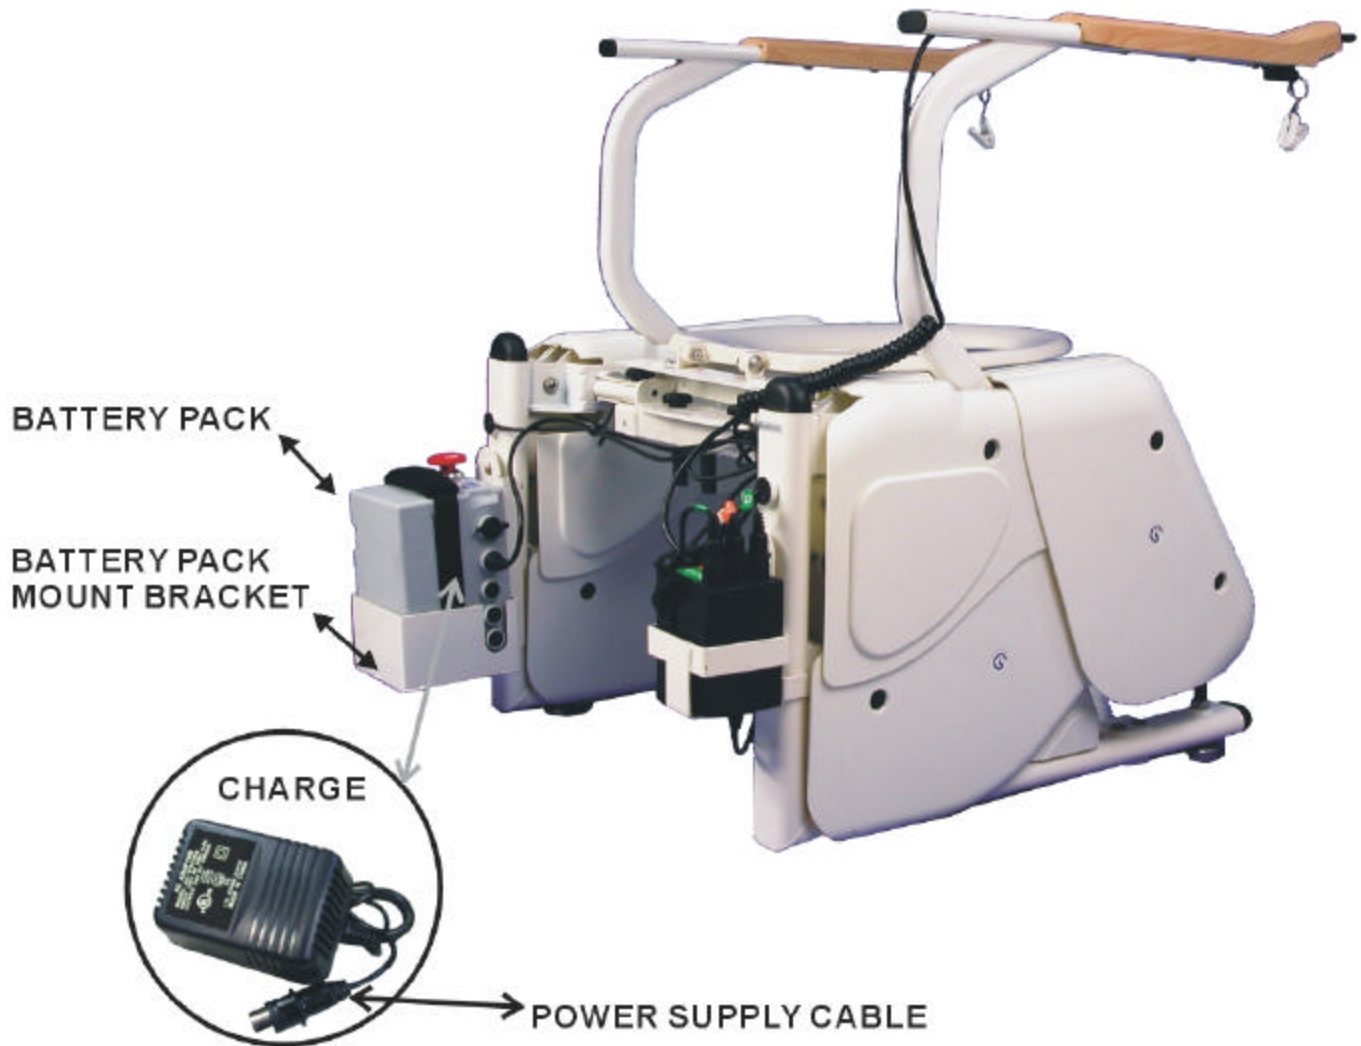

Figure M-8. Battery Pack/Charger
- a. Hang the battery pack/charger mount bracket on the back of the lift frame mount stud as shown in Figure M-8.